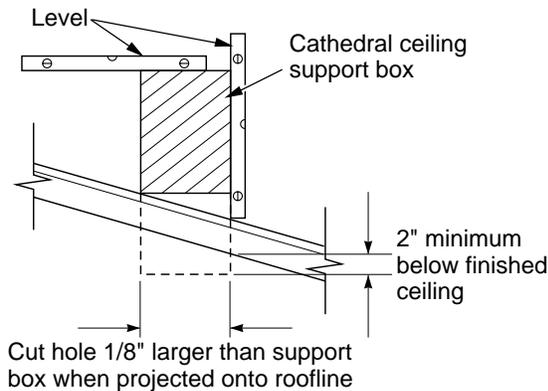

Figure 31 - Cathedral Ceiling Support Box Installation
2. Cut the hole 1/8" larger than the support box outline (see Figure 31).
3. Lower the support box through the hole in the roof until the bottom of the box extends at least 2" below the ceiling (see Figure 31). Align the support box vertically and horizontally using a level. Temporarily tack the support box in place through the inside walls and into the roof sheathing.